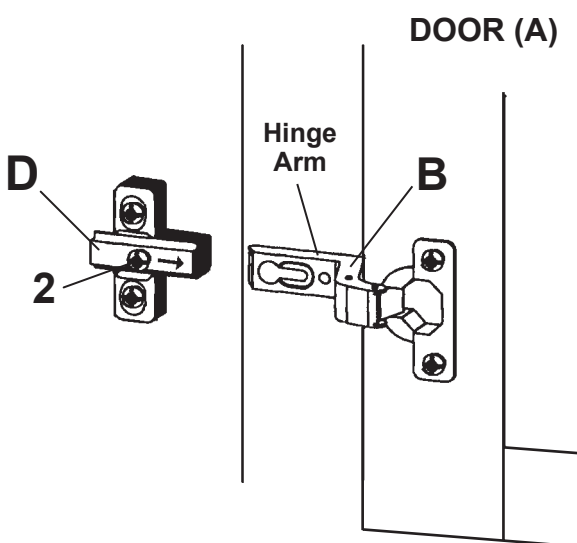
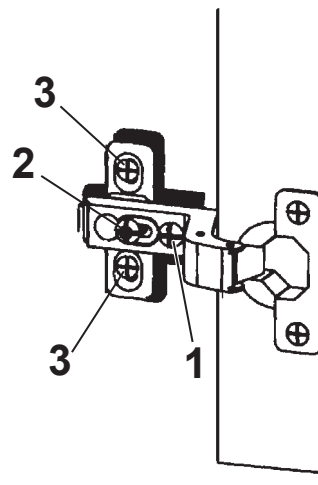

FIG. 6A
FIG. 6B
6. To attach the doors to the unit, slide the hinge arms (B) onto the Hinge Plates (D) as shown in FIGURE 6A. Tighten the screw marked '2' in FIGURE 6A to fasten the hinge. The door may need to be adjusted so that all the spaces between the door and the unit sides are equal. To adjust, follow instructions in FIGURE 6B.
7. Attach a Pad (I) to the back of each door where it comes in contact with the bottom fixed shelf.